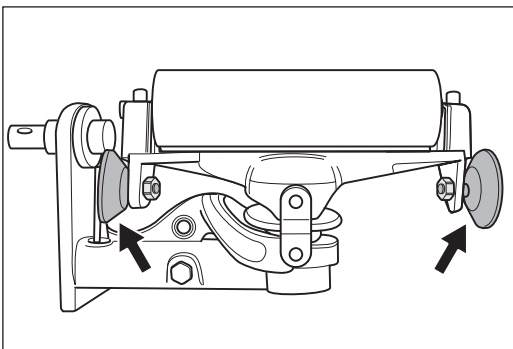

Fig. 64 **The two guide rollers at the drive unit must be rotatable easily! Otherwise they must be replaced!**
- The two guide rollers at the drive unit must be rotatable easily (Fig. 64)!